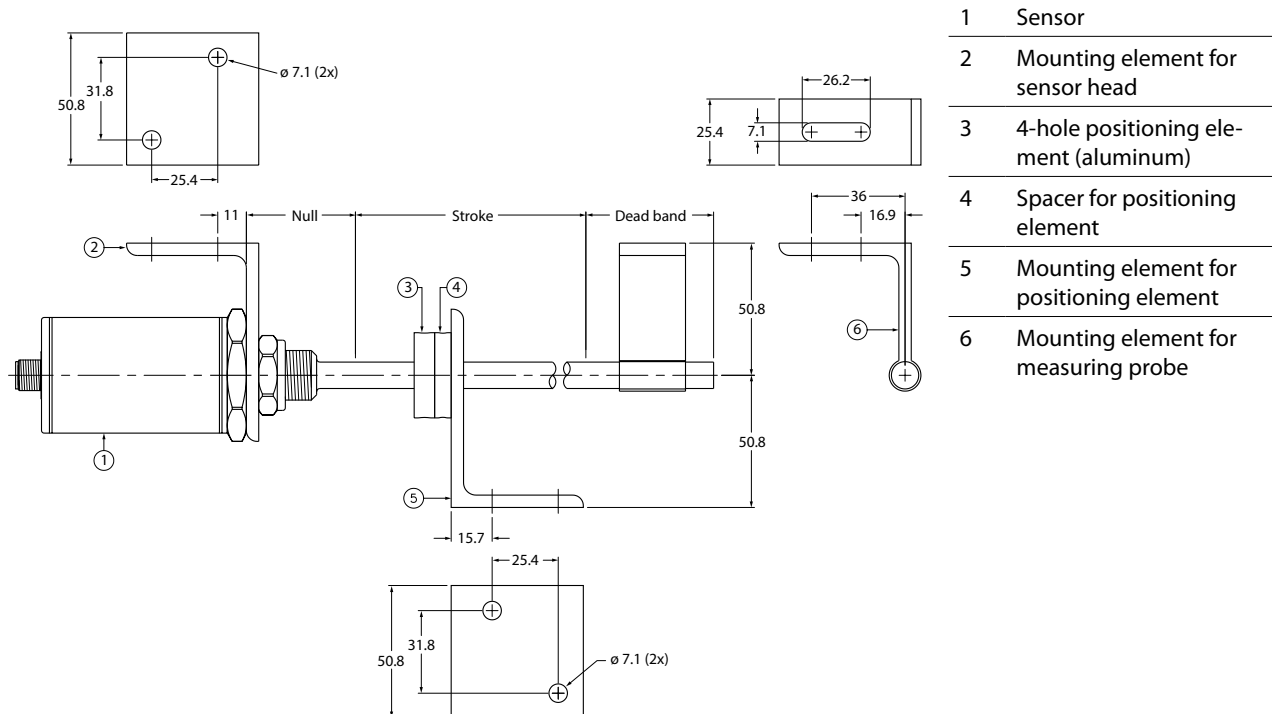

Fig. 9: Mounting the positioning element (dimensions in mm)
- Sensors with measuring probe lengths of 750...1800 mm: Fit additional mounting elements as per Fig. 9.